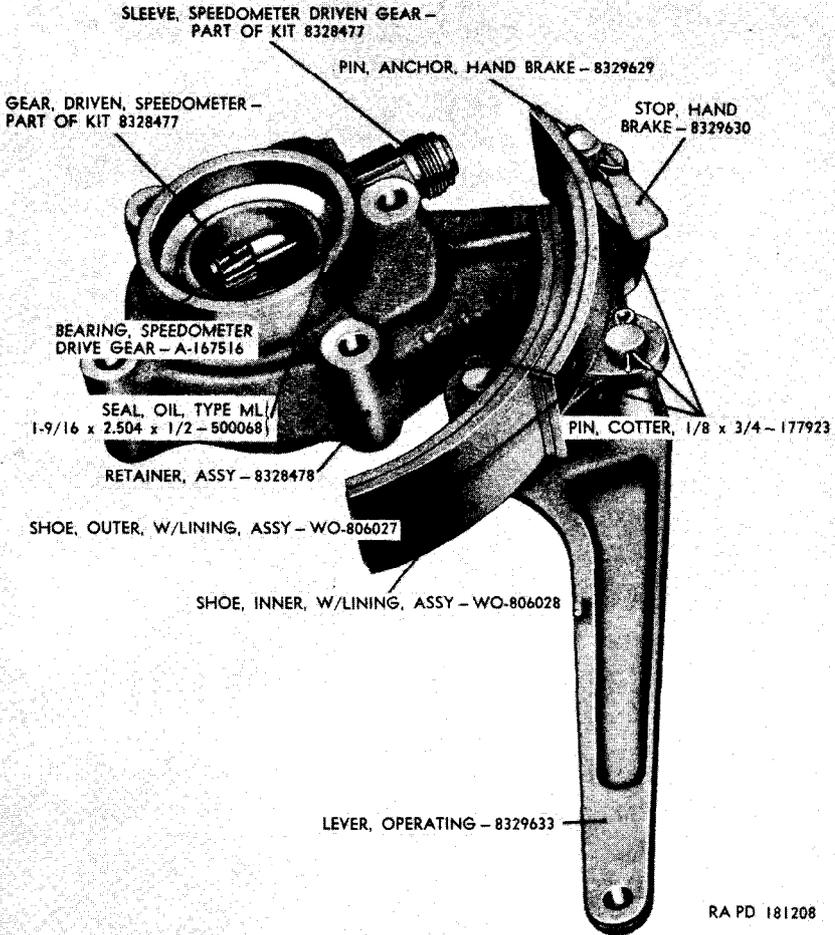

Figure 72. Transfer rear axle output shaft retainer with bearing assembly.
a. *Remove Handbrake Assembly* (fig. 72). Remove the cotter pin, lift the handbrake stop from handbrake anchor pin, and follow by lifting the operating lever and inner and outer shoe assemblies off anchor pin. Remove the two cotter pins which secure the inner and outer shoe assemblies to the operating lever and remove shoe assemblies from lever. Unscrew the plain nut from anchor pin, remove lockwasher, and pull anchor pin from the rear axle output shaft bearing retainer.
b. *Remove Speedometer Driven Gear* (fig. 72). Unscrew the speedometer driven gear sleeve from the rear axle output shaft bearing retainer. Pull the speedometer driven gear from within retainer. Do not remove the speedometer drive gear bearing from the bearing retainer unless inspection (par. 118a) reveals it to be unserviceable. To remove the speedometer drive gear bearing, it is only necessary to pry it out of its recess with a suitable prying tool. Using a suitable removing tool, remove the rear axle output shaft oil seal from the bearing retainer and remove the oil seal gasket.
(fig. 72)
a. Install Speedometer Driven Gear (fig. 72). Install new speedometer drive gear bearing, if necessary, in recess of rear axle output shaft bearing retainer using a suitable replacing tool. Insert speedometer driven gear into retainer. Screw speedometer driven gear sleeve into retainer.
b. Install Handbrake Assembly (fig. 72). Install inner and outer shoes with lining assemblies on operating lever and secure with two $\frac{1}{8}$ x $\frac{3}{4}$ cotter pins. Install handbrake anchor pin, $\frac{5}{8}$ -inch lockwasher, and $\frac{5}{8}$ -18NF-2 plain nut on rear axle output shaft bearing retainer. Install operating lever and shoe assemblies on anchor pin. Install handbrake stop and secure lever and shoe assemblies with $\frac{1}{8}$ x $\frac{3}{4}$ cotter pin.